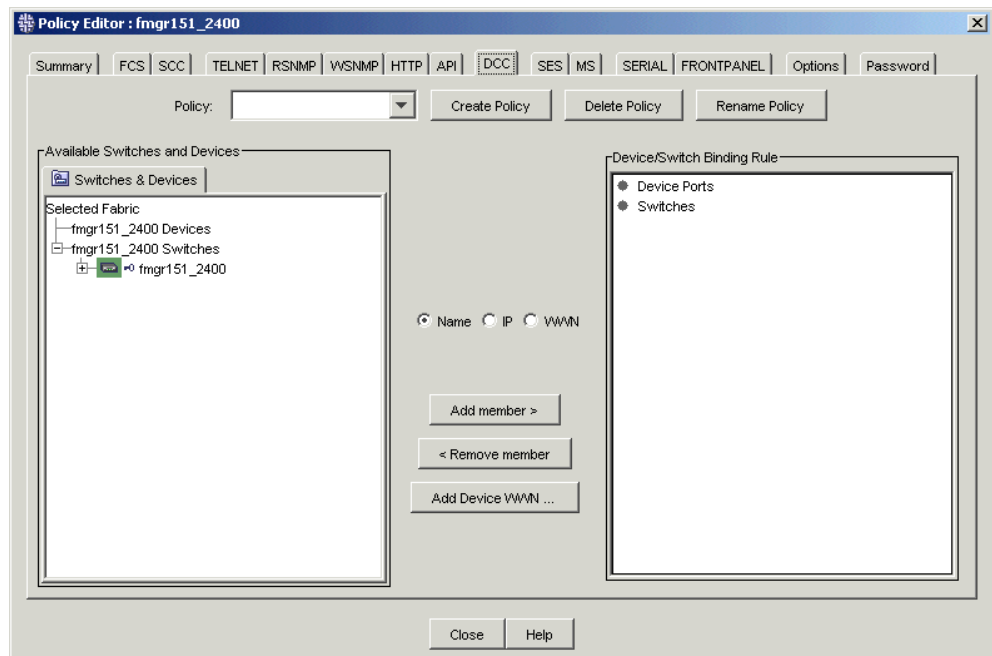

Figure 36: Configuring the DCC Policy
2. Click the **DCC** tab (see Figure 36).